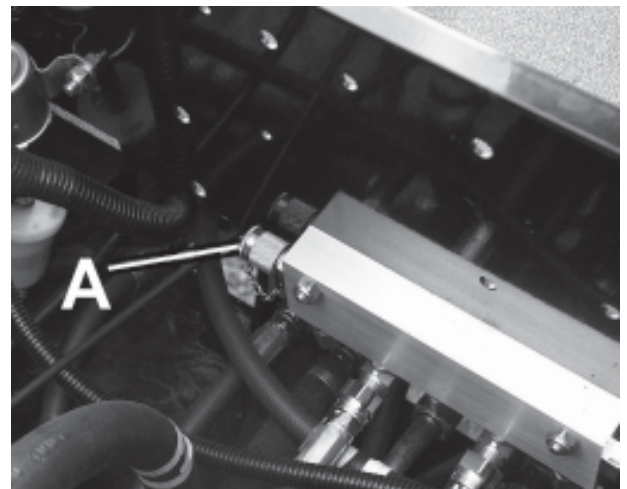

Fig.9
3. Lift and power steering pressure: 83 bar (1200 psi). (A(Fig.9)).